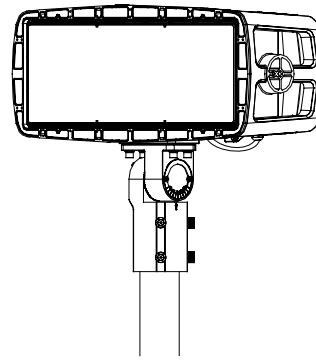

Figure 9
- Place the bracket into the pole and lock the four bolts (Figure 9).